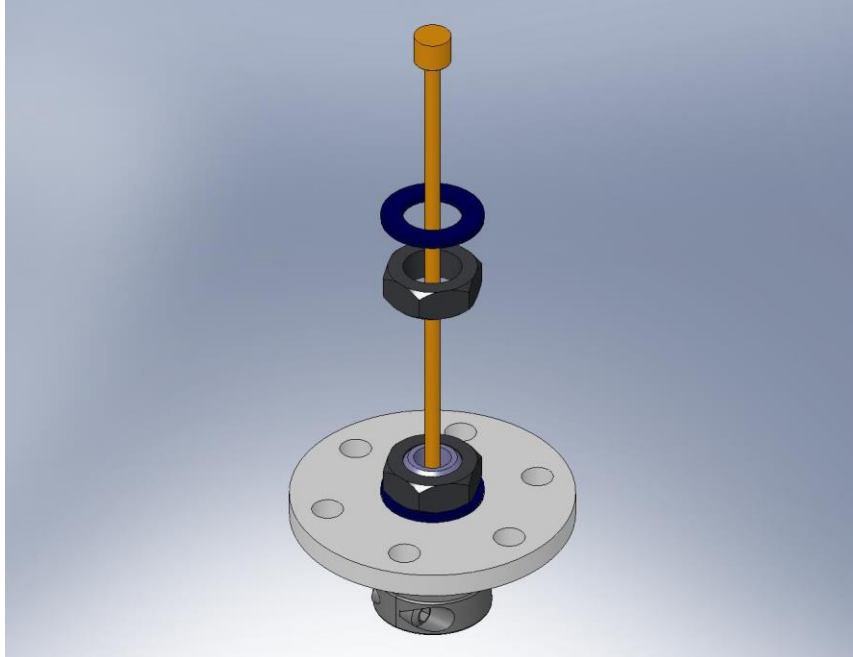

Figure 4.89. The hardware for the top Flexure Mount must go on before the Flexure Assemblies are inserted into the Springs.
- Slip a **D0900206 silver-plated** nut and a washer onto all (3) of the **Flexure Assemblies** (D071431), as shown in Figure 4.89.